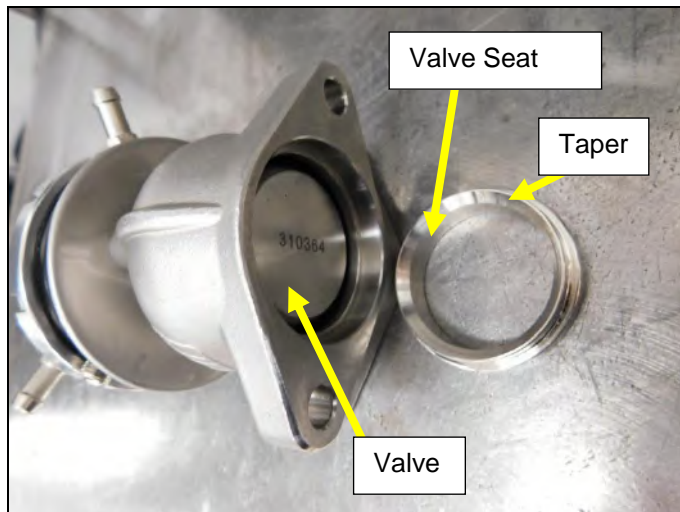

Figure 46
1. Make sure the valve seat is installed correctly with the taper on the seat in toward the valve (**Figures 46 & 47**).
- a. Install the supplied valve seat into the body of the wastegate with the tapered side towards the valve and the flat side facing out (**Figures 46 & 47 above**).